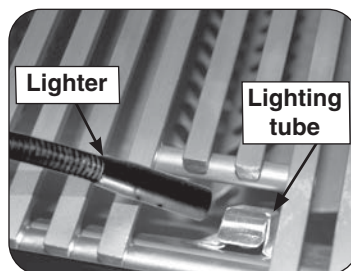
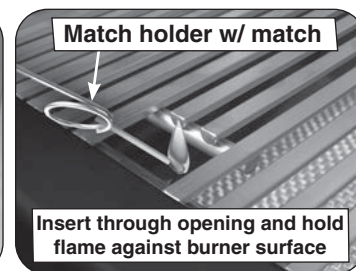

Fig. 29-2 Manual lighting via lighting tube
Fig. 29-3 Manual lighting via match holder
2. Insert either a burning long-barrel butane lighter or a burning long-stem match through the cooking grid opening to the top of the lighting tube (see Fig. 29-2). For backburners or infrared burners, hold the flame against the surface of the backburner/infrared burner. Grills equipped with an infrared burner include a wire extension match holder (attached to drip tray) to assist with manual lighting (see Fig. 29-3).
4. If the burner does not light within five (5) seconds of turning the control knob, **immediately depress the knob and turn the valve to OFF**. **WAIT FIVE (5) MINUTES** before repeating steps 2 through 4 of the **MANUAL LIGHTING** instructions.